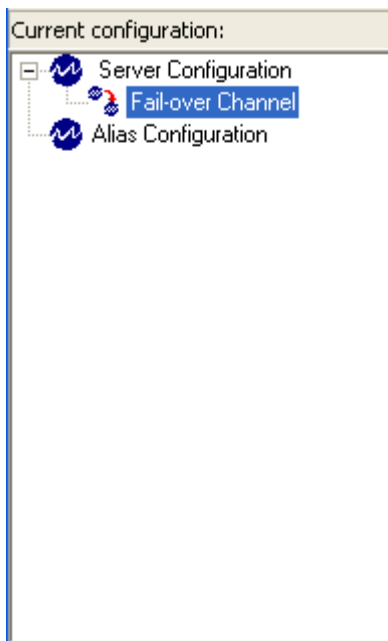

Figure 23 - New Fail-Over Channel Object
8. Click on the **OK** button. The object is created and will appear as a child of the **Server Configuration** item as shown in Figure 23.